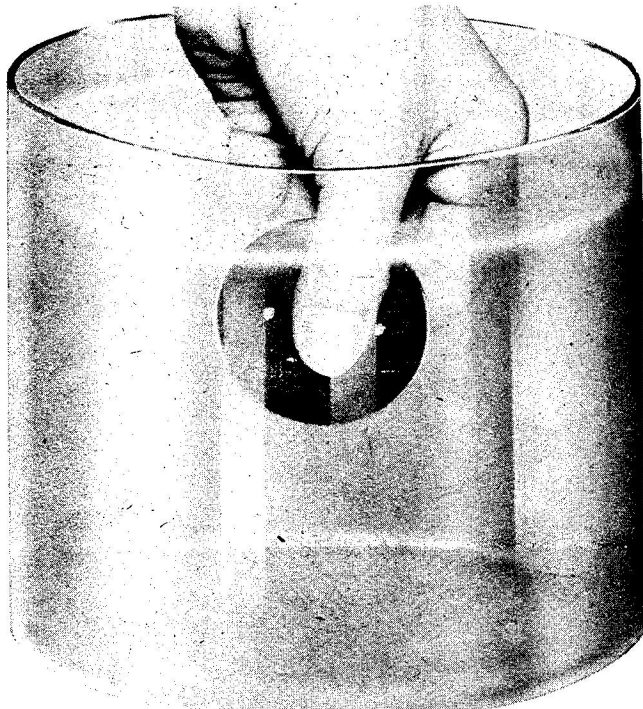

Figure 25 — Test Expansion Unit
(1) CASE.— Inspect the case for cracks and unpainted surfaces. A cracked case must be rejected. Paint all internal surfaces with dull black lacquer.
(2) EXPANSION UNIT.— Remove the specification plate and replace the two specification plate screws in their holes. Place the thumb over the hole in center, without pressing, and place in a jar of soapy water. (See figure 25.) Squeeze gently and hold together for about thirty seconds. Any air bubbles coming from unit under pressure will indicate a leak.